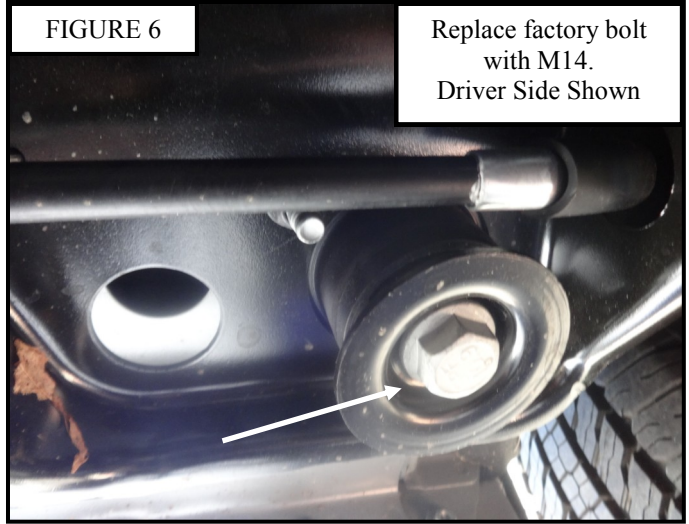
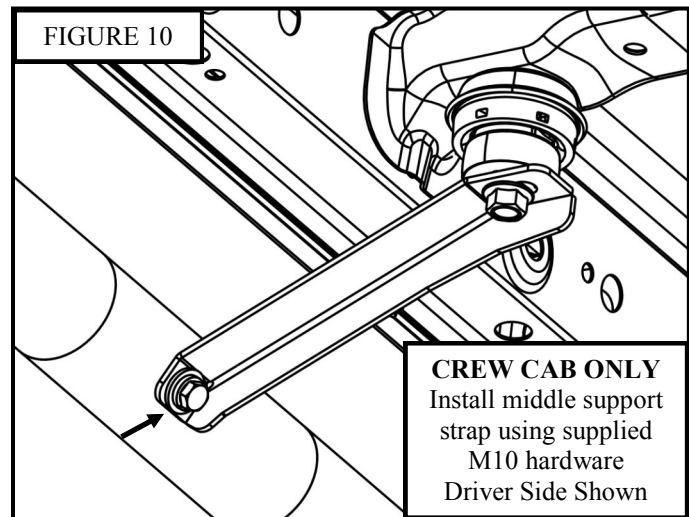

FIGURE 6
FIGURE 10
11. **For crew cab vehicles** remove factory bolt from center body mount similar to Figure 6. Loosely install Center Support Strap to body mount and to step bar with the factory bolt and supplied 3/8" hardware, see Figure 10. Note: No spacer is needed.